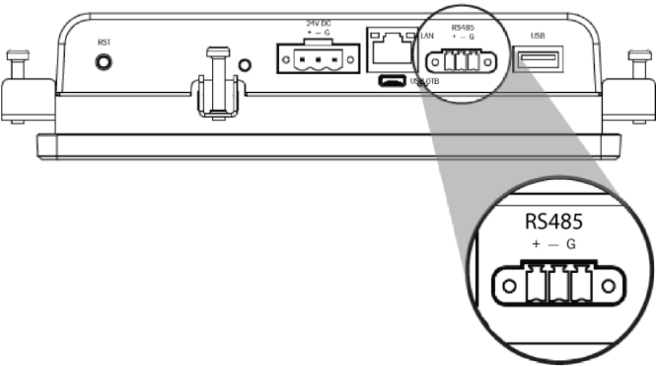

Fig. 10 — Wiring TruVu™ ET Display to Rnet Communication Port
2. Wire the TruVu™ ET display’s **RS485** connector to the controller’s **Rnet** port, **G** to **Gnd**, **+** to **Rnet+**, **-** to **Rnet-** using 2-conductor 22 AWG wire with a maximum distance of 500 ft (152 m). See Fig. 10 for the ET display to the Rnet communication port.